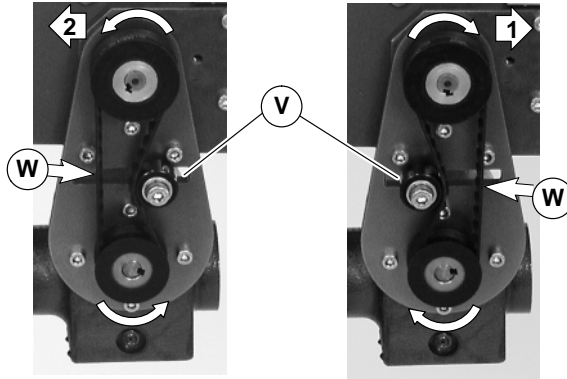

Figure 10
8. Depending on direction of conveyor belt travel (1 or 2 of Figure 10), position belt tensioner (V) as shown. Tension belt to obtain .125" (3 mm) deflection for 1.0 lb (456 grams) of force at belt mid-point (W). Tighten tensioner screw to 103 in-lb (12 Nm).
3. Depending direction of conveyor belt travel (1 or 2 of Figure 10), position belt tensioner (V) as shown. Tension belt to obtain .125" (3 mm) deflection for 1.0 lb (456 grams) of force at belt mid-point (W). Tighten tensioner screw to 103 in-lb (12 Nm).
5. Depending direction of conveyor belt travel (1 or 2 of Figure 10), position belt tensioner (V) as shown. Tension belt to obtain .125" ( 3 mm) deflection for 1.0 lb (456 grams) of force at belt mid-point (W). Tighten tensioner screw to 103 in-lb (12 Nm).